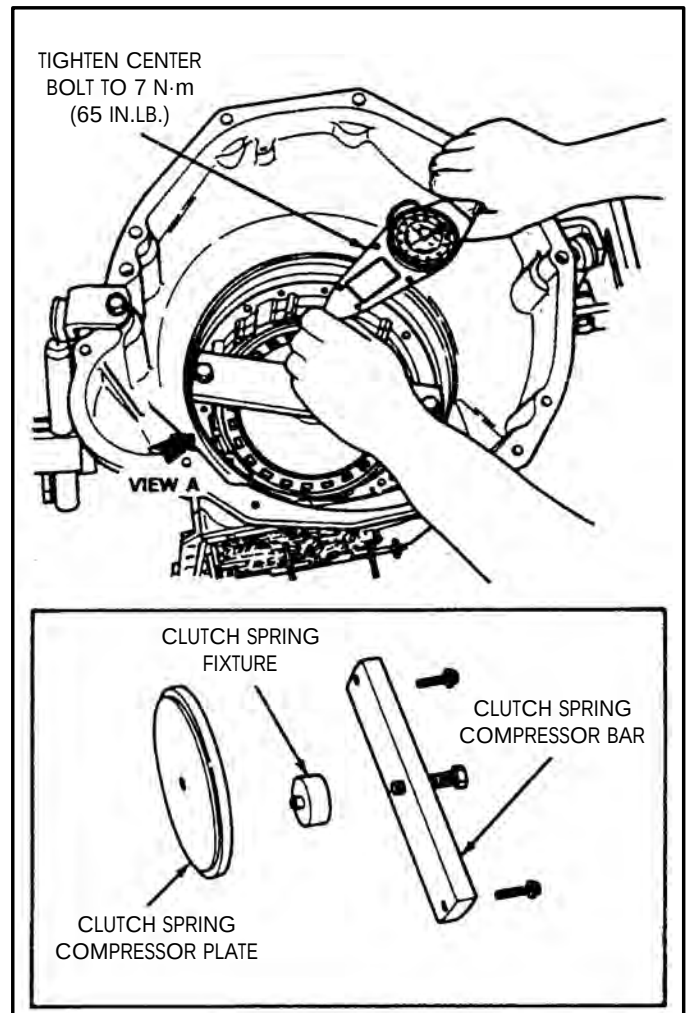

Figure 61
12. Install clutch spring compressor as shown in Figure 61, or equivalent, to compress the intermediate/overdrive clutch cylinder so that snap ring can be removed.